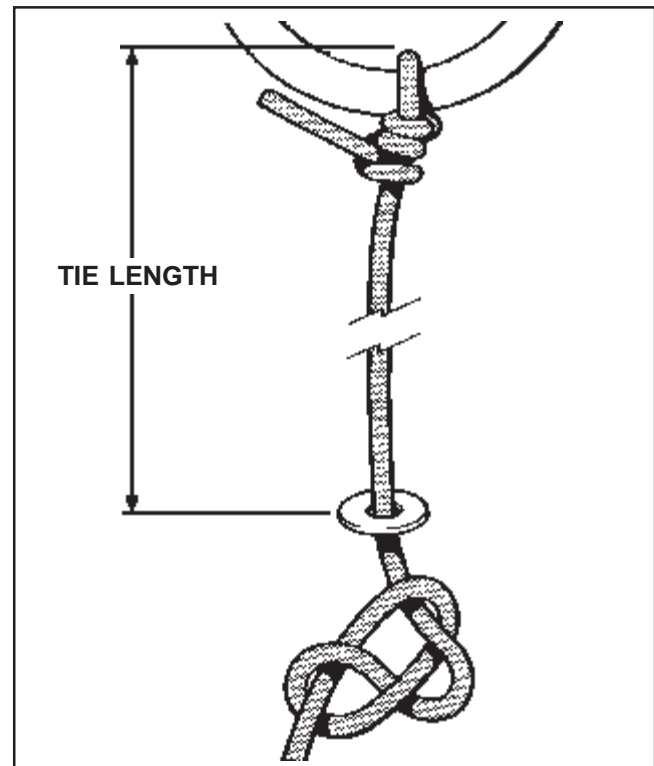

Fig. 35: Recommended purse line washer knot.
The purse line specifications for various models of Bambi Buckets are given above in Table 2. The tie length refers to the distance from the fender washer up to the top side of the lower section of the ring used to secure the purse lines. The tie length is illustrated in Fig. 35.
The purse lines alternate from one side of the valve to the other. When threading the valve, insert the first purse line from one side. The next purse line is inserted from the opposite side. Any or all lines replaced should follow the same sequence. Refer to Adjusting Purse Lines in Dump Valve, Section 11.5. Braided nylon for new purse lines can usually be purchased locally. Make sure you use nylon since it is self-lubricating underwater. After cutting new line, melt the ends to prevent fraying. Using a lighter tie a knot on the end of a new line large enough to prevent passage of the line through the fender washer. A recommended knot is illustrated in Fig. 35.
- 2) Ensure the new purse lines are melted at the loose end, and have a large enough knot to be secure at the fender washer. See Fig. 35 for recommended knot.
- 3) Mark the purse lines to the tie length given in Table 2. The tie length is described above and illustrated in Fig. 35.